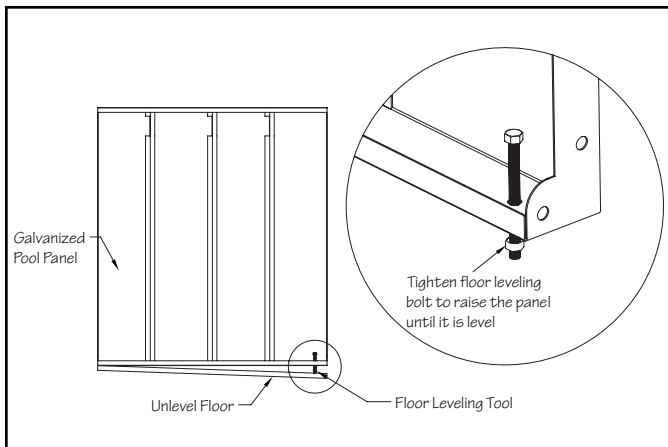

Fig. 6
Leveling tools are provided in the panel leveling hardware bag to level the pool panels if necessary. There are holes in the horizontal face of the bottom flange of the panel. Slide the leveling tool under the bottom flange so that the hole in the tool aligns with the pre-drilled hole in the bottom flange. Thread the leveling tool bolt into the leveling tool through the hole in the bottom flange. Tighten the bolt until the panel is level. Repeat this process on all (4) sides if necessary. Fig. 6.